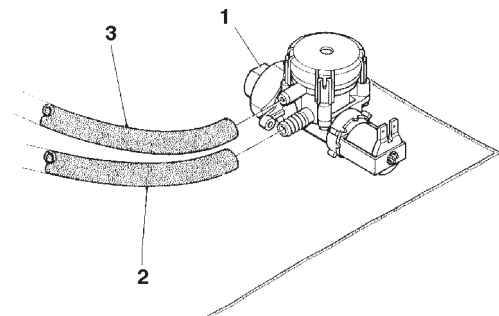

Fig. 8
Use a hose (also available as a kit) capable of withstanding the water mains pressure and suitable for use with foodstuff (min. inside diameter of 6 mm) to connect the water supply to the union (3/4" gas) of the water inlet solenoid valve (see Fig. 8).
The water inlet solenoid valve (see Fig. 8) is equipped with an overflow device which mechanically stops the water inlet if there is a malfunction in the solenoid valve or in the boiler water level control device.
- loosen the nut which secures the solenoid valve supply hose to relieve the water mains residual pressure and then tighten again (see Fig. 8);